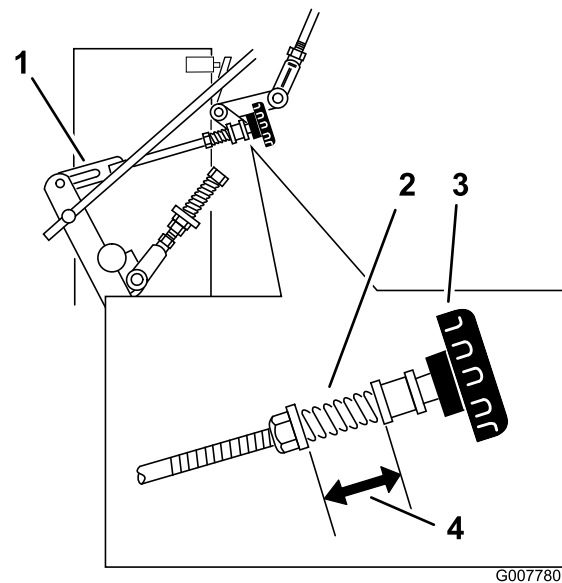

Figure 35
- Adjust the right side linkage by turning the quick track knob counterclockwise until the tire begins to rotate forward (Figure 35).
- Turn the knob clockwise 1/4 of a turn at a time. Then move the speed control forward and back to neutral. Repeat this until right wheel stops rotating forward (Figure 35).
- The spring that keeps tension on the knob should normally not need adjustment. However if an adjustment is needed, adjust the length of spring to 26 mm (1 inch) between the washers (Figure 35).
- Adjust spring length by turning nut at front of spring (Figure 35).